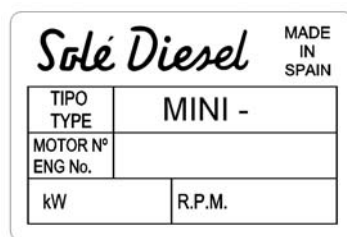

Fig. 1.1
- Engine nameplate showing identification data (see Fig. 1.1)